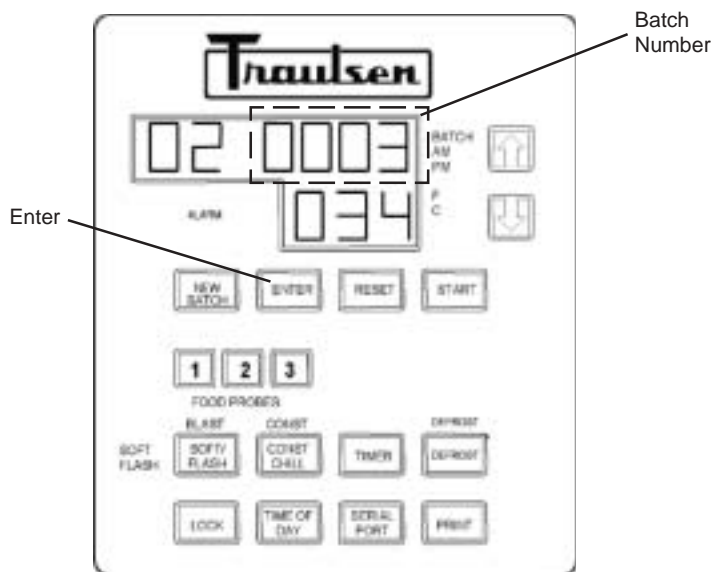

Fig. 30
STEP 2: The next four (4) digits in the display are now flashing (see figure 30). These numbers will represent a batch identification number. To proceed on to the next batch in sequence, press ENTER. The display will automatically display the next number set in sequence. Proceed to the next step.